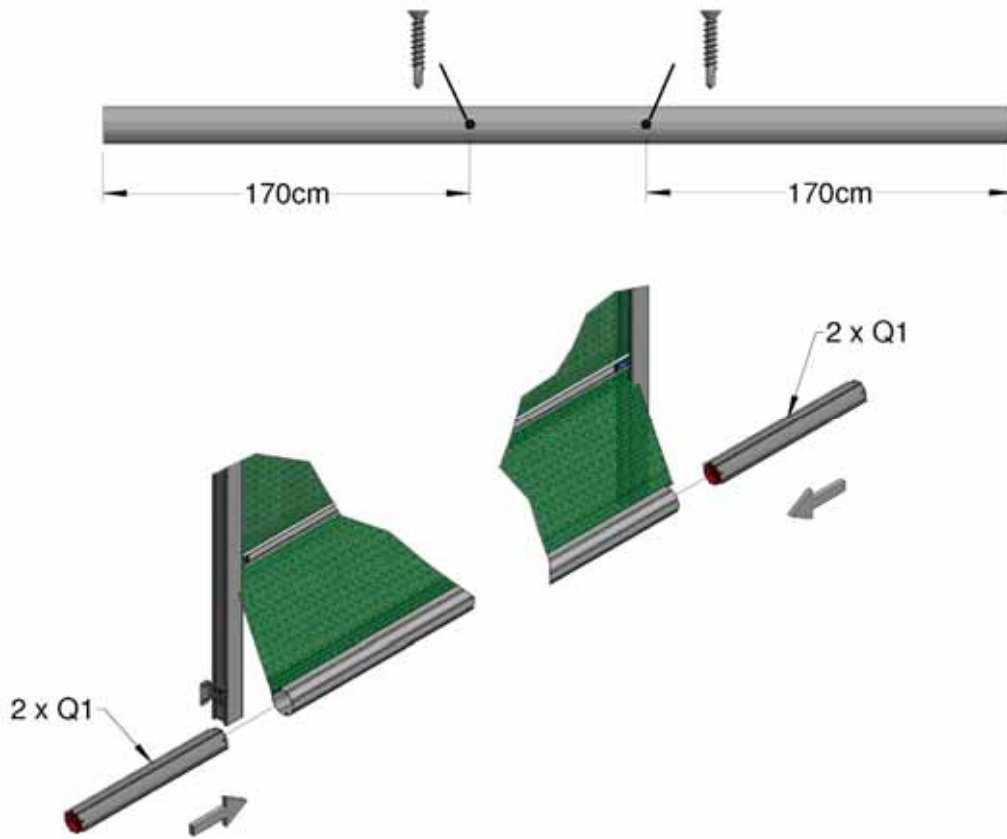

Figure 21, Bottom Tube Weights
15. Insert two M4x25 self drill screws into the bottom tube in the positions shown in Figure 21.